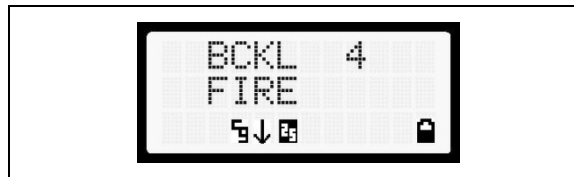

Figure 7-7: Backlight Menu Display
3. Press . The backlight menu item is activated. Line one shows the active menu item and its current parameter setting. Line two shows the currently selected system or group name (see Figure 7-7).